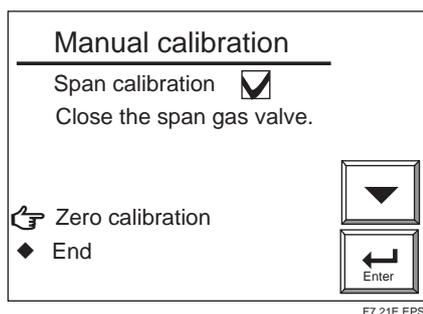
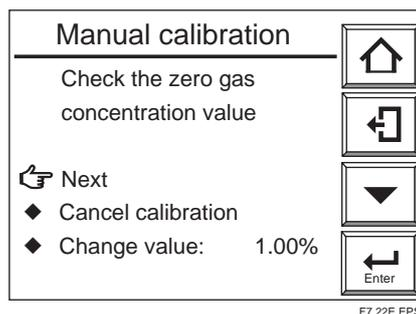

Figure 7.21 Span Calibration Complete Zero Calibration Start Display (in Manual Calibration)
Figure 7.22 Zero-gas Concentration Check Display (in Manual Calibration)
- (5) After the measured value has stabilized, press the [Enter] key to display the “span-calibration complete” display shown in Figure 7.21. At this point, the measured value is corrected to equal the span-gas concentration. Close the span-gas flow valve. The valve lock-nut should be tightened completely so that the span gas does not leak.
- (6) Select Zero calibration as in Figure 7.21 to display the zero-gas concentration check display (in Manual calibration) . Check that the zero-gas oxygen concentration value and the calibration gas oxygen concentration value agree. Then select Next as in Figure 7.22.